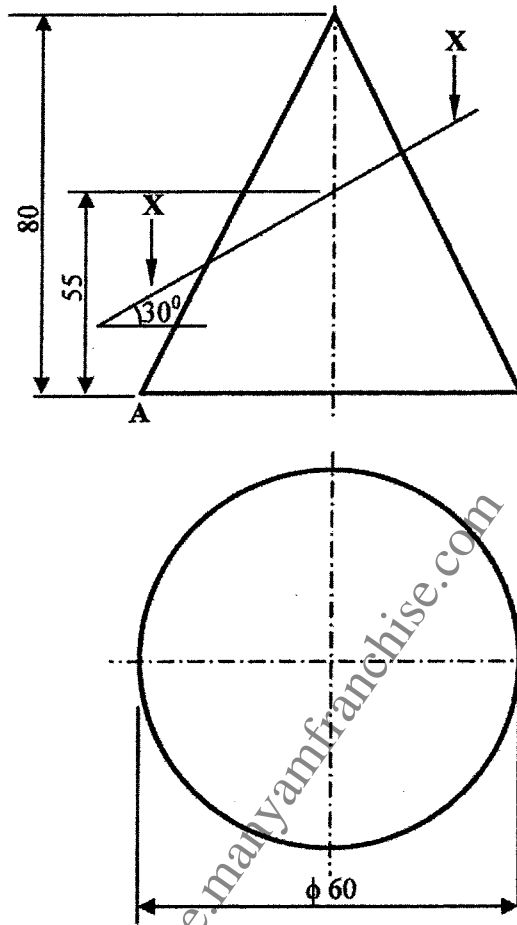

Fig. 2
5. Figure 2 shows a front elevation of a truncated cone, cut at  $30^\circ$  to the horizontal and an incomplete plan.